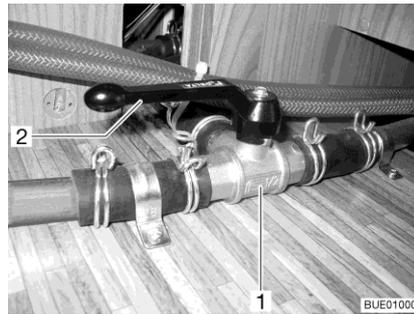

Fig. 132 3-way valve
- Set the lever (Fig. 132,2) of the 3-way valve (Fig. 132,1) parallel to the straight flow direction (Fig. 132).
- Set the lever (Fig. 132,2) of the 3-way valve (Fig. 132,1) transverse to the straight flow direction.